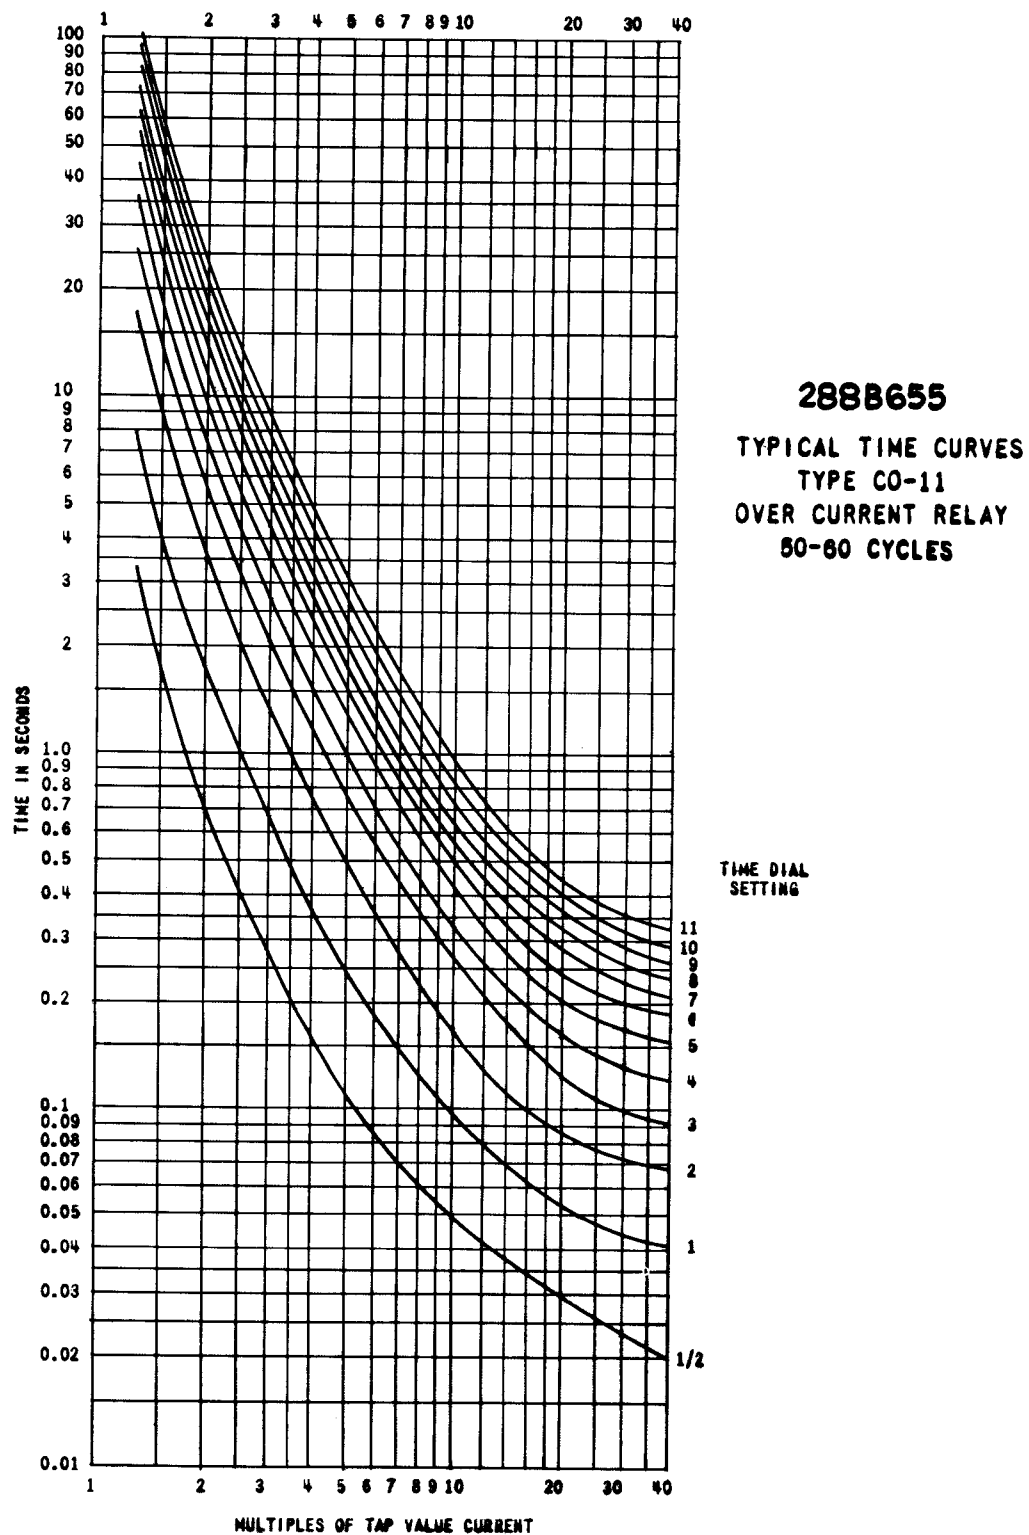

Fig. 13. Typical Time Curves of the Type CO-11 Relay.
3. Time Curve — For type CO-11 relay only, the 1.30 times tap value operating time from the number 6 time dial position is $54.9 \pm 5\%$ seconds and should be checked first. It is important that the 1.30 times tap value current be maintained accurately. The maintaining of this current accurately is necessary because of the steepness of the slope of the time-current characteristic (Figure 13). A 1% variation in the 1.30 times tap value current (including measuring instrument deviation) will change the nominal operating time by approximately 4%.
For type CO-11 relay only, the 1.30 times tap value operating time from the number 6 time dial position is $54.9 \pm 5\%$ seconds. It is important that the 1.30 times tap value current be maintained accurately. The maintaining of this current accurately is necessary because of the steepness of the slope of the time-current characteristic (Figure 13). A 1% variation in the 1.30 times tap value current (including measuring instrument deviation) will change the nominal operating time by approximately 4%. If the operating time at 1.3 times tap value is not within these limits, a minor adjustment of the control spring will give the correct operating time without any undue effect on the minimum pick-up of the relay. This check is to be made after the 2 times tap value adjustment has been completed.